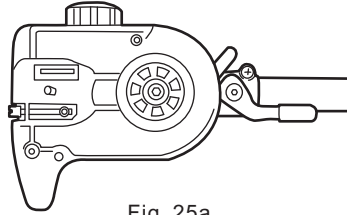

Fig. 25a
2. Check the oiling port (D14) for clogging and clean if necessary to ensure proper lubrication of the guide bar and saw chain during operation. Use a soft wire small enough to insert into the oil discharge hole. (See Fig. 25a)